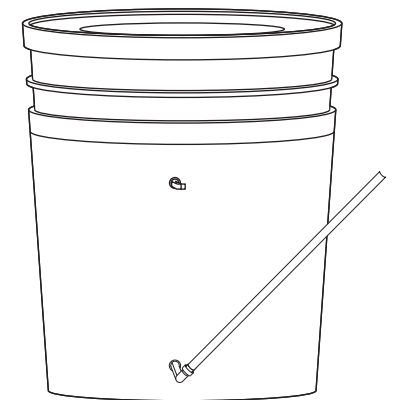

Figure 2
2. Rotate the water pipe downwards and remove the Red Floating Ball #L, as shown in Figure 2.